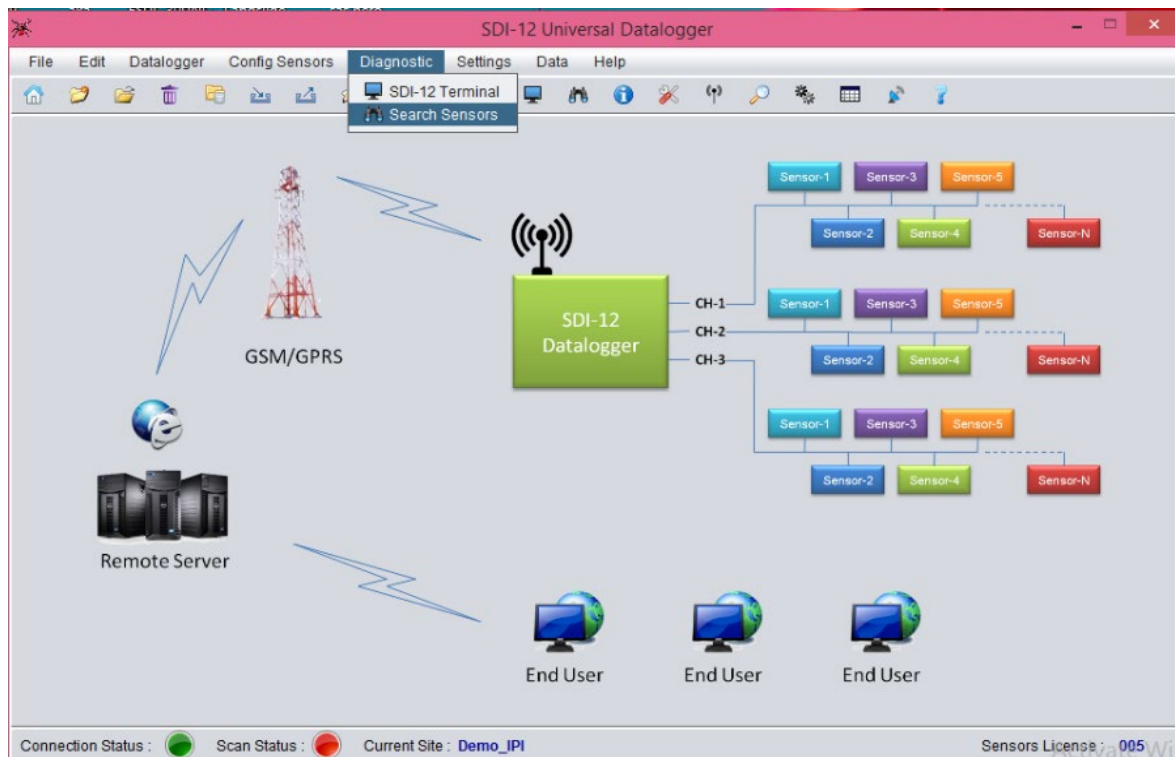

Figure 7-12 Diagnostic menu of EDSL-30UNI Configuration Manager Software
- 11 Click “Diagnostic” followed by “Search Sensors” to search the sensors connected with the Datalogger as shown in figure 7-12 below.